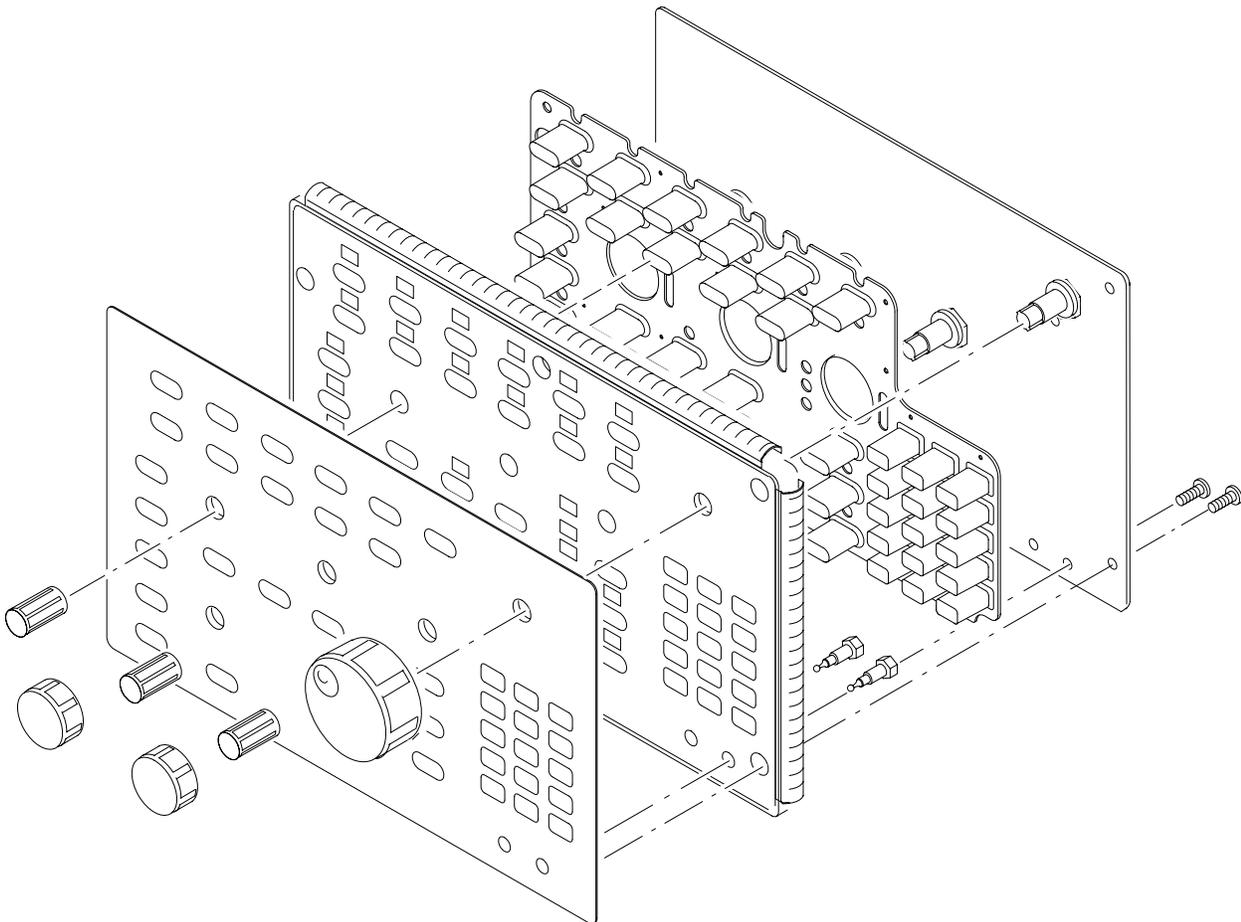

Figure 6-9: Disassembly of Front-Panel Assembly
- c. Now hand disassemble the front-panel assembly components using Figure 6-9 as a guide. Reverse procedure to reassemble, again using Figure 6-9 as a guide.
5. *Reinstallation:* If the front-panel assembly was further disassembled in step 4, then reverse substeps 4a-4c to reassemble, using Figure 6-9 as a guide. Then do step 3, reversing the procedure outlined in each substep. Last, reinstall the trim ring and, if desired, the front cover, referring to the procedure *Front Cover, Trim Ring, Menu Buttons, and Attenuator Panel* (page 6-22).